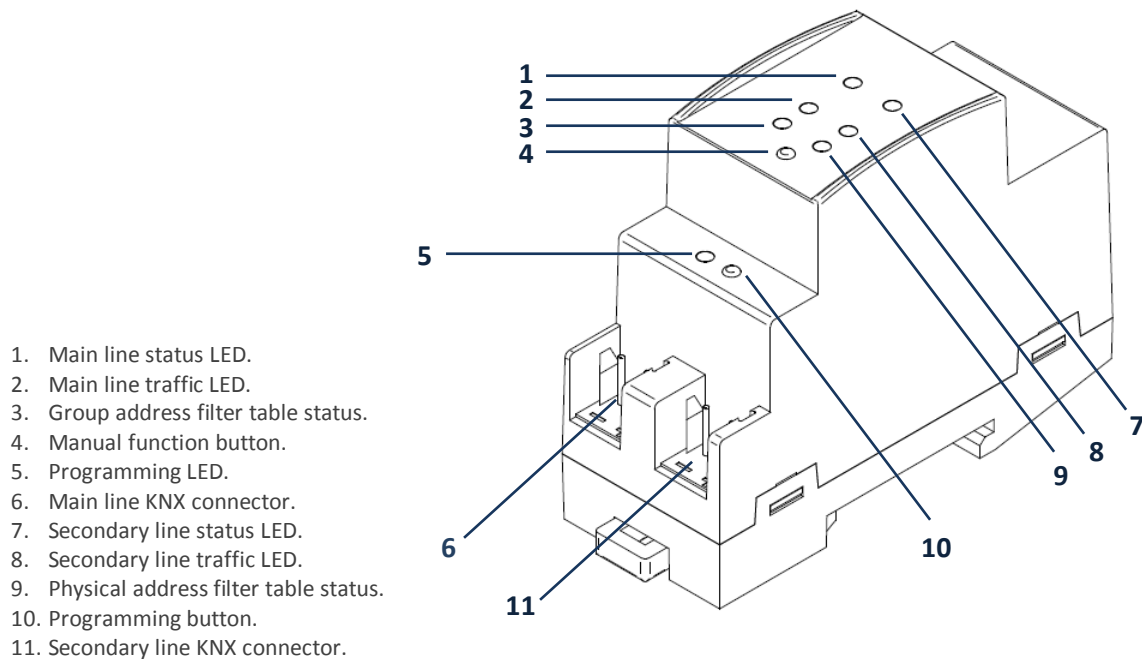

Figure 3 Element Diagram
As shown in Figure 3 each of the two KNX lines to be coupled must be connected to one of the two KNX bus connectors available (6, 11). After the connection, the line coupler can be conveniently mounted on the DIN rail by the usual procedure.
The programming button (10) shown in Figure 3 may be pressed to set Linecoupler in **programming mode**. After a short press, the programming LED will light in red.
Zennio Linecoupler features an additional pushbutton on the top cover, next to the status LEDs (see (4) in Figure 3). A 3-second press on this button will set the device in manual mode, thus activating a customizable manual function, and will turn the main bus status LED orange or red (depending on the previous status of the LED: green or off). Depending on the parameterised manual function, other LEDs may also change their colours.